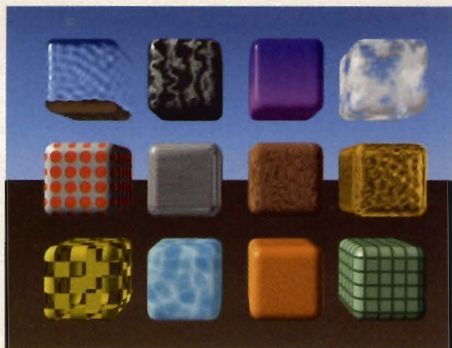

Fig. 1: Standard textures scene. Medium anti-aliasing, no tracing options.
| Fig. 1: Texture Examples | 8:42 | 3:12 (2.7x) | Med Res, MedAA (8), 9:24 on A4000 |